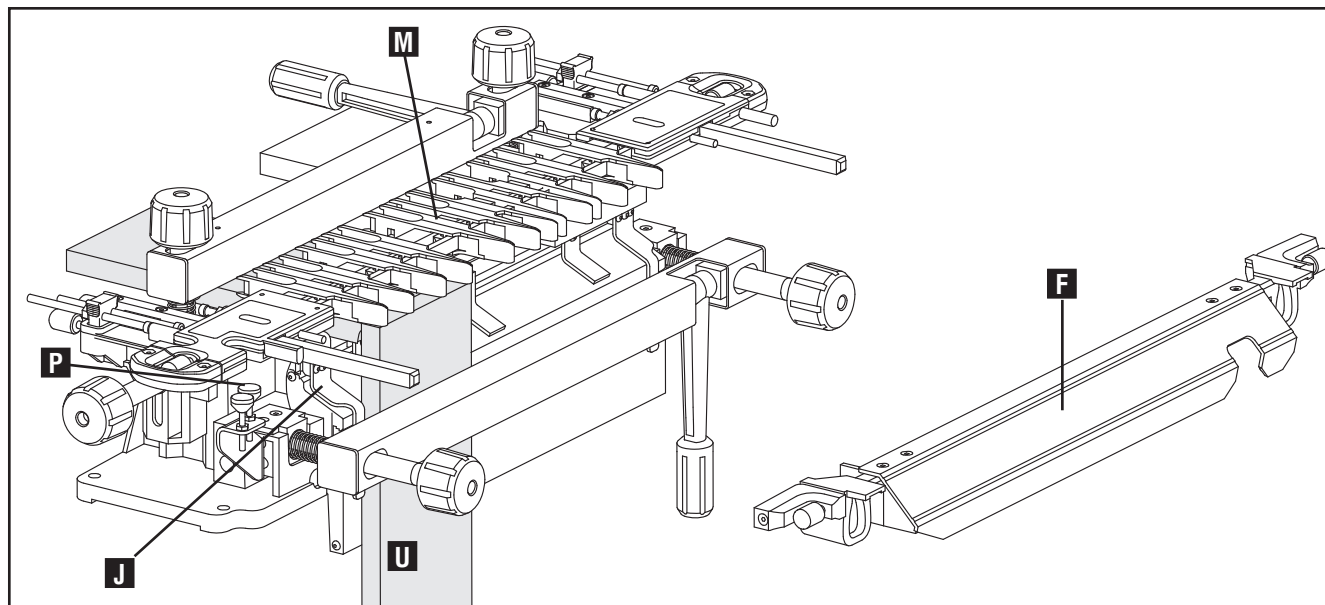
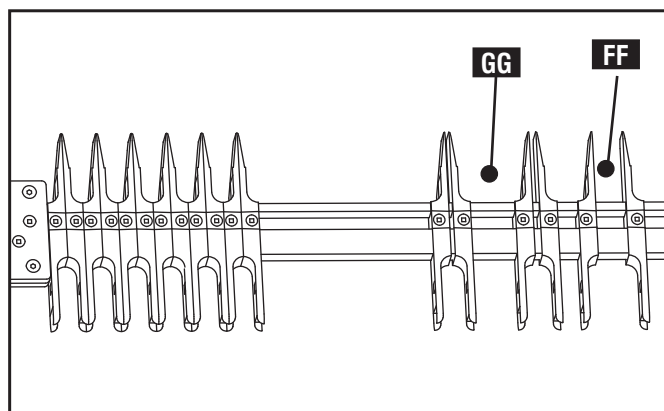

Fig. D12
Fig. D13
2. Mount the pinboard (U) Fig. D12 with the "outside surface" facing away from the jig. Be sure it is flush against the left offset guide (J). Mount the template (M) and be sure the end of the pinboard (U) is flush against the bottom of the template.
3. Replace the stabilizer bar (F).
5. Set the router bit depth (as previously described) using the proper depth gauge. (P)
6. Make the cut. Be sure to cut only between the angled fingers (GG) Fig. D13, not between the straight ones (FF). Make small passes, moving from left to right within fingers.